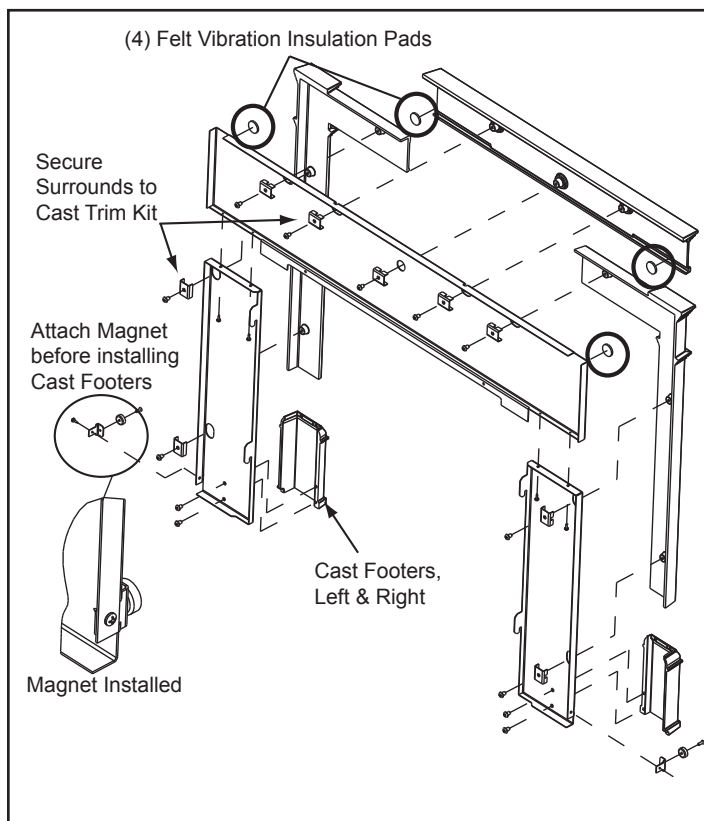

Figure 21.1
3. Using a 4 to 6 inches long Phillips head screw driver attach the side surrounds to the top surround using (2) #8 sheet metal screws on each side provided with the kit
4. Place the peel and stick round felt vibration insulation pads on the front side in each corner of the top metal piece and on the back side in each corner of the top cast piece. **Figure 21.1.**